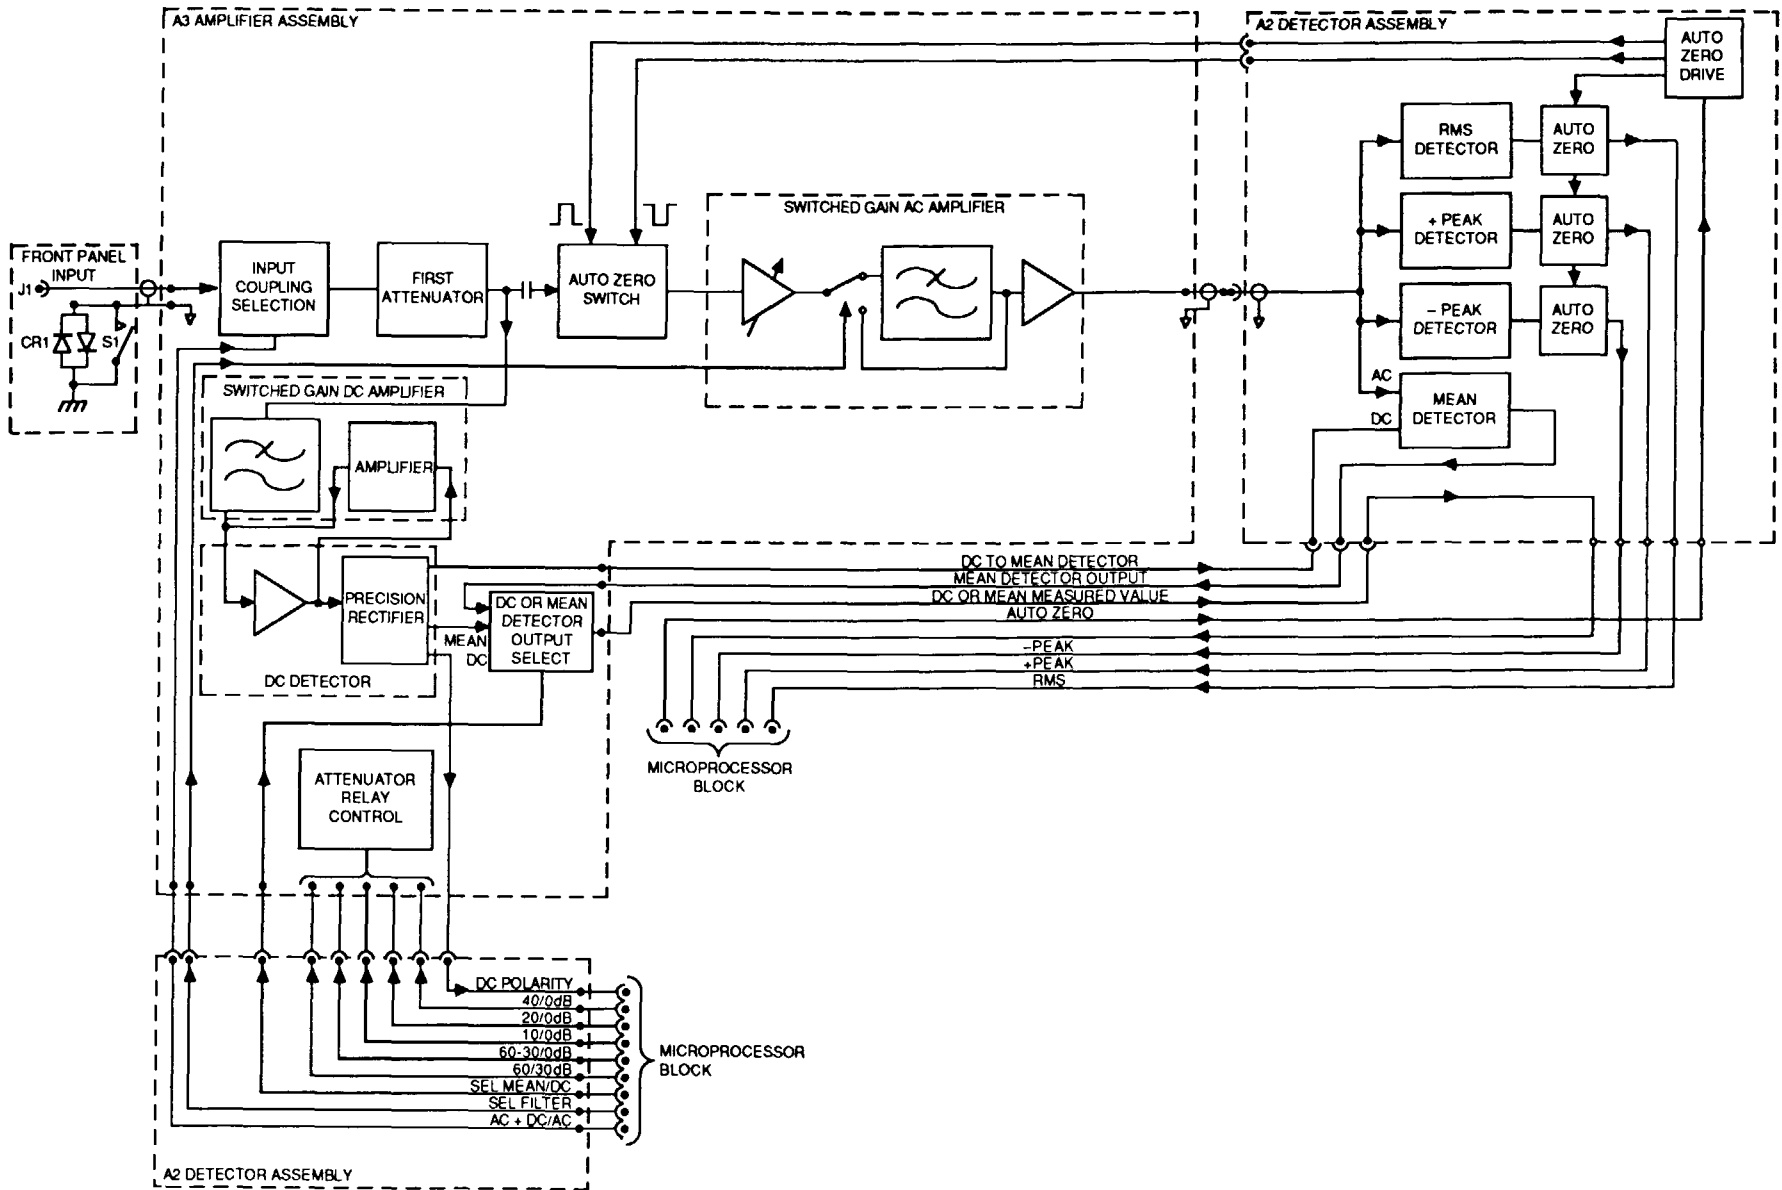

Figure 1-3. Analog Signal Processing Block Diagram.
- ① ANALOG SIGNAL PROCESSING (Fig 1-3). This block contains all the circuits to process the input signal, and provide measurement information to the Microprocessor block for display. This block is contained on the following circuit card assemblies: